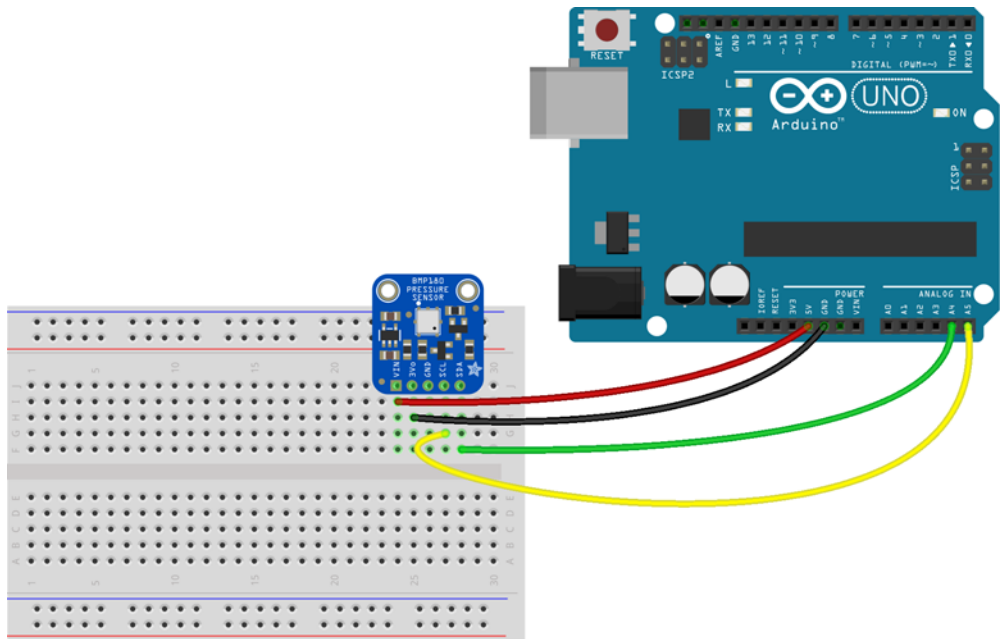

Figure 11.19 Wiring diagram for the BMP180 and the Arduino Uno
- 5 Connect the BMP180 to the Arduino Uno as shown in figure 11.19.